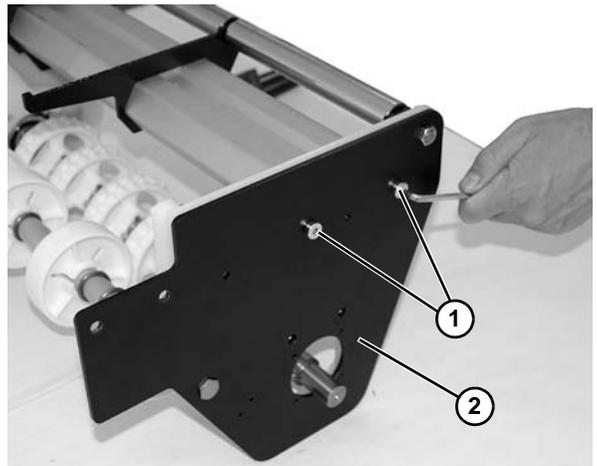

Figure 51
10. Remove two socket head screws (Figure 51, item 1) from end plate (Figure 51, item 2).